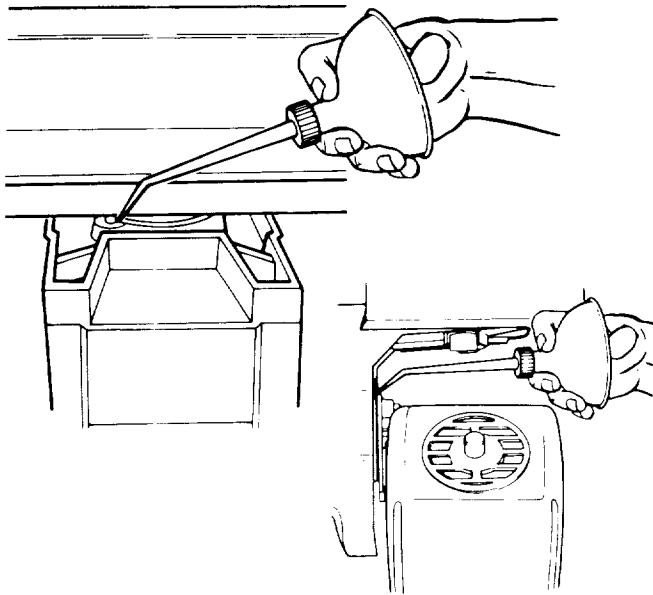

Fig. 129- Swivel and Bevel Index Pins
- Apply a few drops of oil along the *swivel index pin* and the *bevel index pin* only if the pins have a tendency to stick. Swivel to in-rip or out-rip for easy access to the *swivel index pin*. Bevel to 45° and *bevel index pin* can be easily accessed behind the *yoke* as illustrated. (Figure 129)